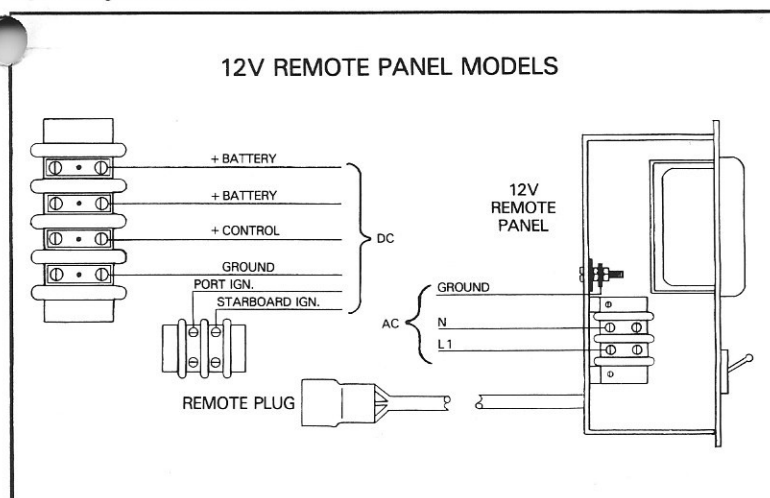

Figure 9. 12V Remote Panel Connections.
5. (Remote-Panel models only) Connect remote panel as shown in **Figure 9 or 10.**